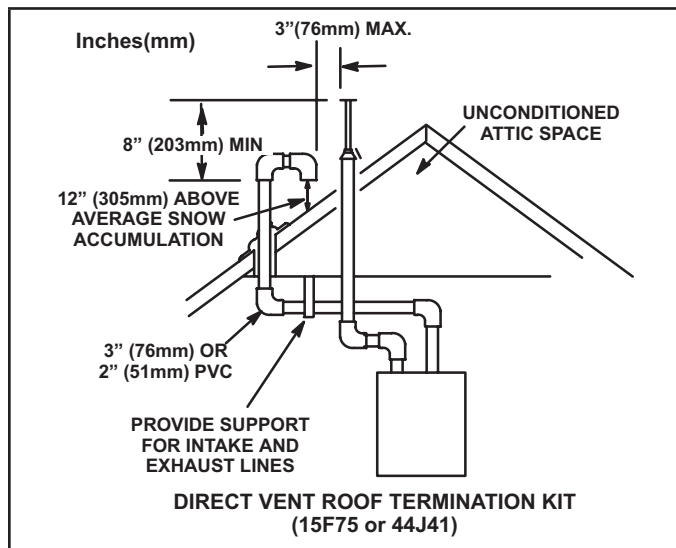

FIGURE 30
Intake and exhaust pipes may be routed either horizontally through an outside wall or vertically through the roof. In attic or closet installations, vertical termination through the roof is preferred. FIGURE 30 through FIGURE 37 show typical terminations.
- 3 - On roof terminations, the intake piping should terminate straight down using two 90° elbows (FIGURE 30).